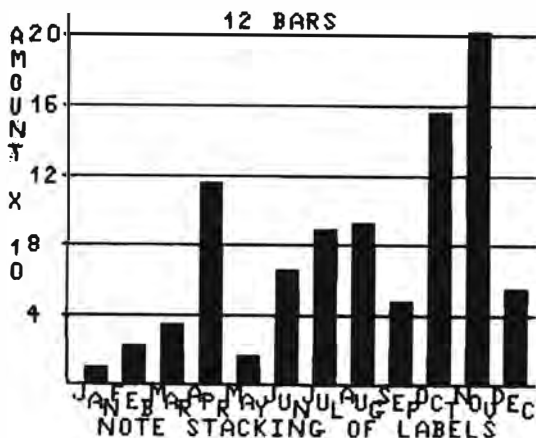

Fig. 1. Sample Vertical Graph
**B**argraph is a menu-driven Basic program that plots four different bar graphs on the PMODE 4 screen: vertical, horizontal, stacked, and side by side. (See Figs. 1 through 4.) You can enter data manually or load information saved previously. In addition to printing bar labels for your data, the program can print a title, subtitle, x-axis (horizontal) label, and y-axis (vertical) label for your graph. Titles, which can be enlarged to double-sized print, and subtitles are centered at the top of the display.